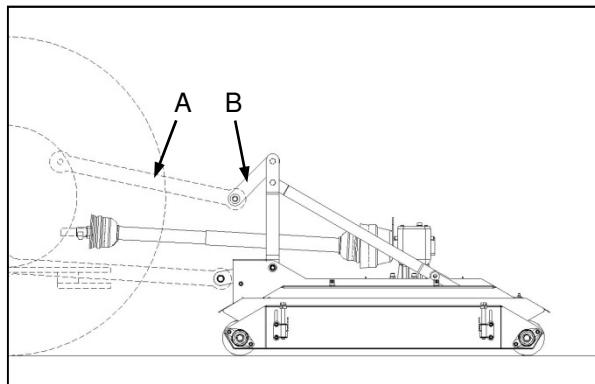

Fig. 1
- ✓** With the implement in the working position, the tractor 3-point hitch top link length should be adjusted (Fig. 1-A) to allow the flexible link (Fig. 1-B) to assume an angle of approx. 45 degrees.
- ✓** Met die implement in die werkposisie, verstel die lengte van die trekker se 3-punt-boskakel (Fig. 1-A) sodat die flotering skakel (Fig. 1-B) in omtrent 'n 45 grade-posisie is.